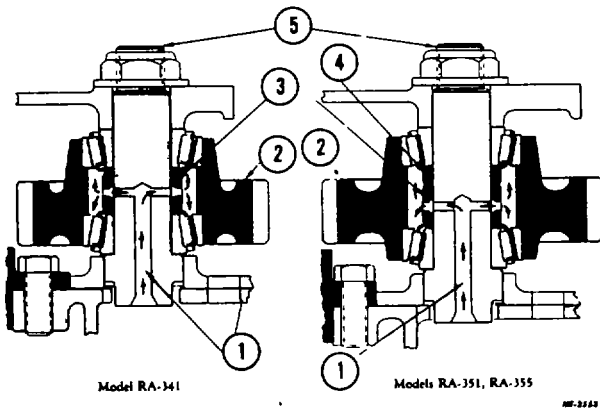

Fig. 44. Cross Section Of Idler Shaft Installation
1. Assemble idler shaft bearings, bearing races and bearing spacer to idler gear. On models RA-351 and 355, position the bearing spacers correctly to index oil groove in rear spacer with oil passage in idler shaft (see Fig. 44).